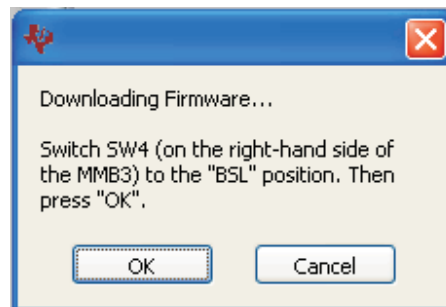

Figure 11. Firmware Download Message
5. The plug-in will detect whether or not the board has the correct firmware loaded. The first time you use the ADS7924EVM-PDK, the firmware for the MMB3 may need to be downloaded to the MMB3. If the firmware must be loaded, you will see a screen as shown in Figure 11.